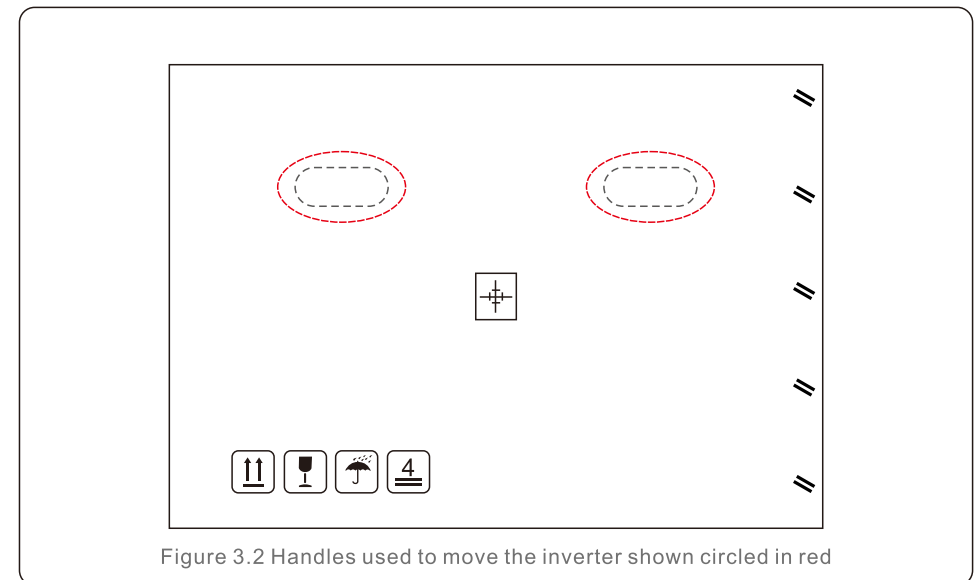

Figure 3.2 Handles used to move the inverter shown circled in red
- 1).The red circles below denote cutouts on the product package. Push in the cutouts to form handles for moving the inverter (see Figure 3.2).